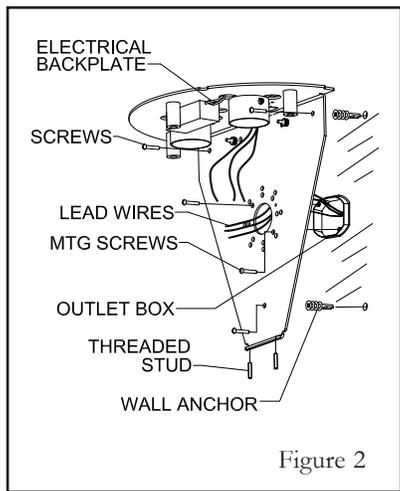

Figure 2
Step 2 Locate outlet box and temporarily mount fixture backplate assembly to the outlet box. With bracket mounted, mark the holes to be used for additional mounting support. Remove mounting bracket and install additional wall anchors or similar hardware. (See Figure 2)